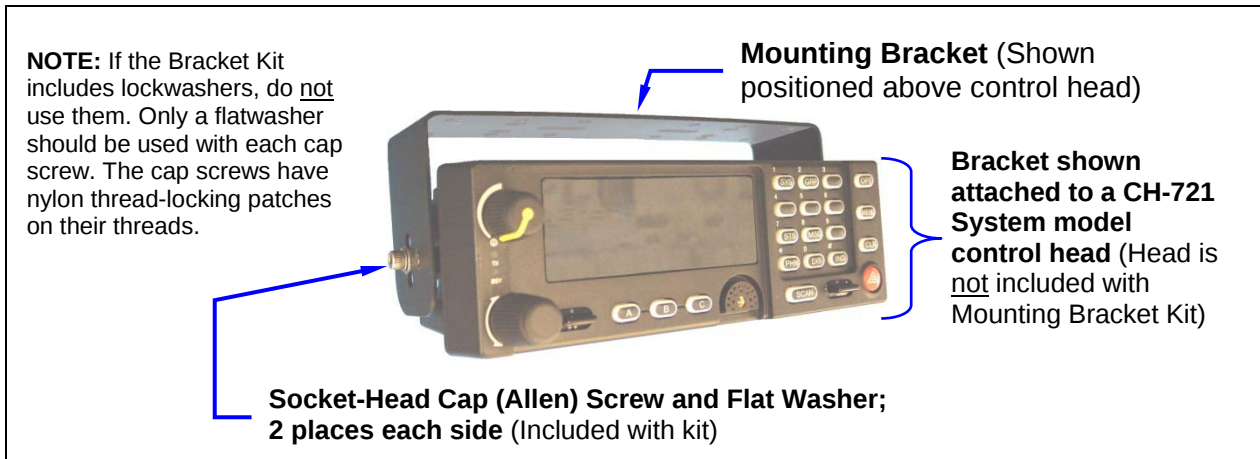

Figure 9-8: Standard U-Shaped Control Head Mounting Bracket (Kit Part Number KT-008608)
6. In each side "ear" of the mounting bracket, start a #8-32 hex-socket-head cap (Allen) head screw with a flat washer by inserting the screw through the slotted hole in the bracket and then into the threaded hole in the side of the control head. This hardware is included with the Mounting Bracket Kit. As noted in Figure 9-8, do not use lockwashers, even if they are included in the kit. Turn each screw clockwise to tighten it.